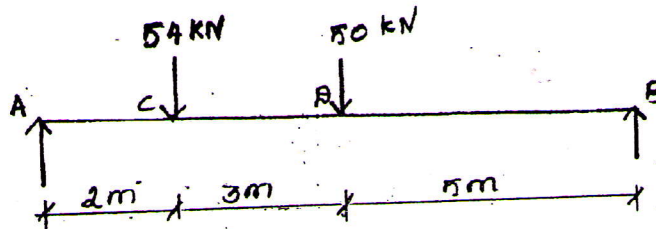

Fig. 2
- (b) Using Macaulay's method, find the deflection under each load, maximum deflection and the point at which maximum deflection occurs for the beam shown in Fig. 2.